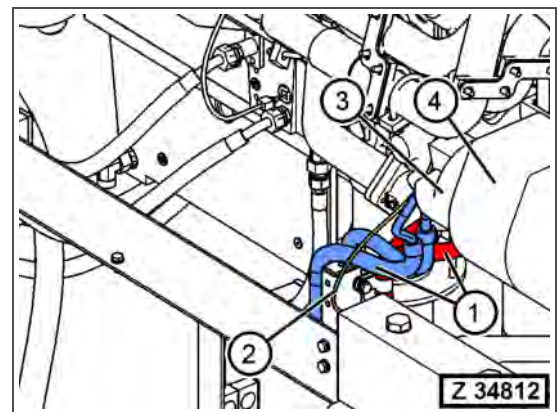

Fig. 3-86
5. Reconnect the grounding cable (Fig. 3-86, Pos. 2) at the alternator (Fig. 3-86, Pos. 3).
6. Reconnect and attach the wire harnesses (Fig. 3-86, Pos. 1) at the alternator (Fig. 3-86, Pos. 3).
7. Assemble the alternator belt guard (Fig. 3-86, Pos. 4).